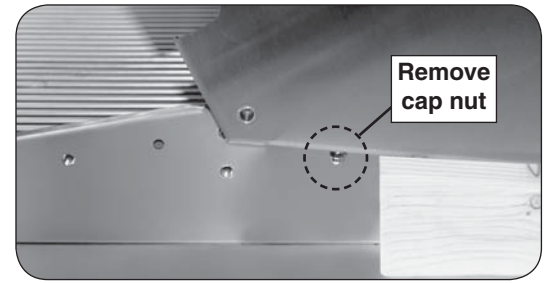

Fig. 3-1 Remove cap nut
- Remove the cap nut ($\frac{3}{8}$ " wrench) from the bottom lip of the hood as shown in Fig. 3-1. Save for the next step.